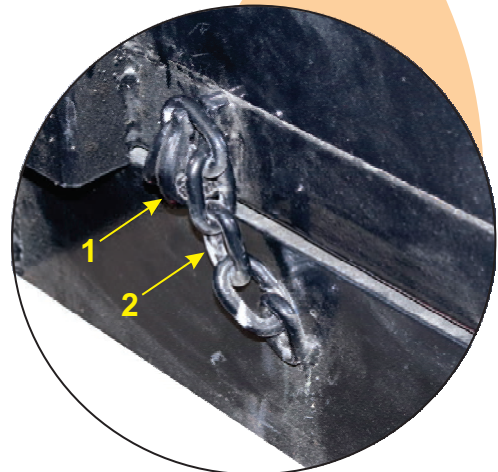

Figure 3-22 – Trailer Body Travel Lock
- n. Secure the trailer dump body in the lowered position by hooking the trailer lock chain (1, Figure 3-22) over the dump bed lock hook (2, Figure 3-22).